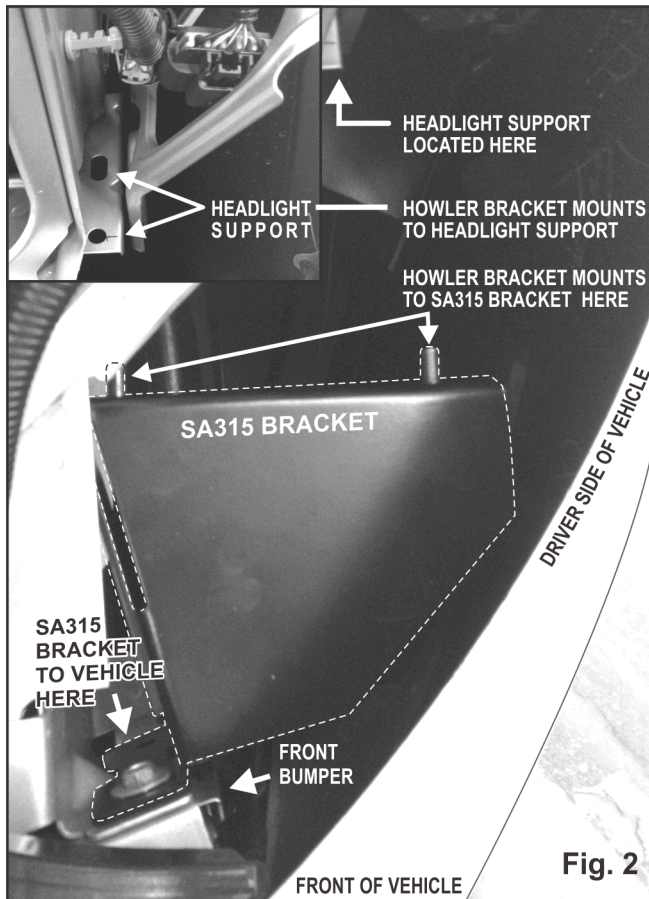

Fig. 2
2. Remove the 2 bolts which help secure the bumper (Fig. 2) and secure the bracket to the vehicle where the bumper mounts using these 2 bolts.
2. Mount the Howler bracket to the back of the SA315 bracket with the supplied 5/16 HEX HEAD BOLTS, 5/16 FLAT WASHERS AND 5/16 ELASTIC STOP NUTS (Figs. 2 & 3).
3. Secure the Howler bracket to the vehicle headlight support using the supplied 5/16 - 18 X 1" HEX HEAD BOLTS, 5/16 FLAT WASHERS AND 5/16 ELASTIC STOP NUTS (Figs. 2 & 3).